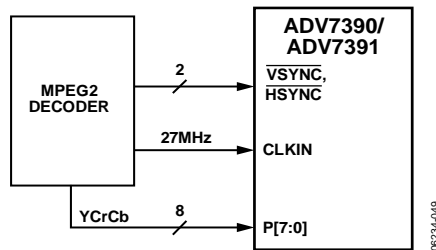

Figure 51. SD Example Application
The ADV7390/ADV7391 support a number of different input modes. The desired input mode is selected using Subaddress 0x01, Bits[6:4]. The ADV7390/ADV7391 default to standard definition (SD) mode on power-up. Table 35 provides an overview of all possible input configurations. Each input mode is described in detail in this section. Note that the WLCSP option is only configured to support SD as shown in Figure 51.